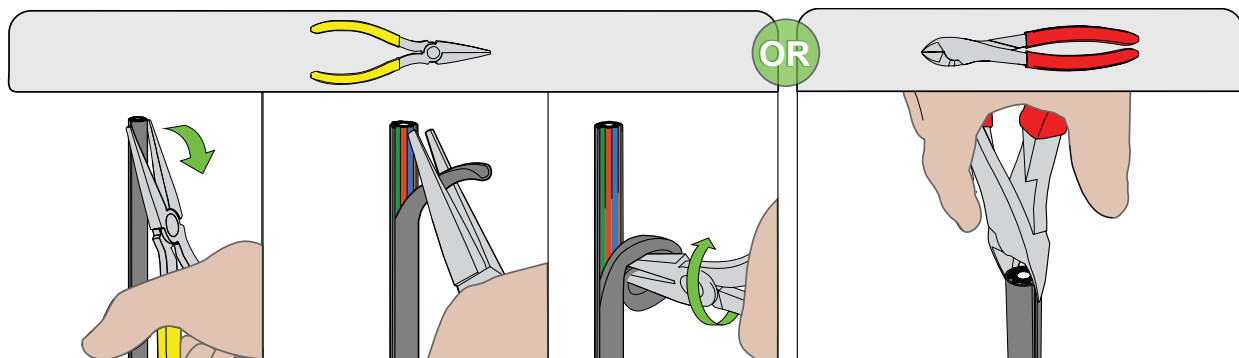

Figure 5
NOTE: Other options: Use needle-nose pliers or side-cutters to start tear (Figure 5).
Step 6: With your fingers (Figure 6A) or needle-nose pliers (Figure 6B), remove the split pieces of outer jacket at the end of the cable (Figure 5). Continue to remove the jacket by pulling both sides to ring cut. An alternate method is to pull the Ideal® tool away from the cable enabling the round blade to pull out the jacket (Figure 6C).